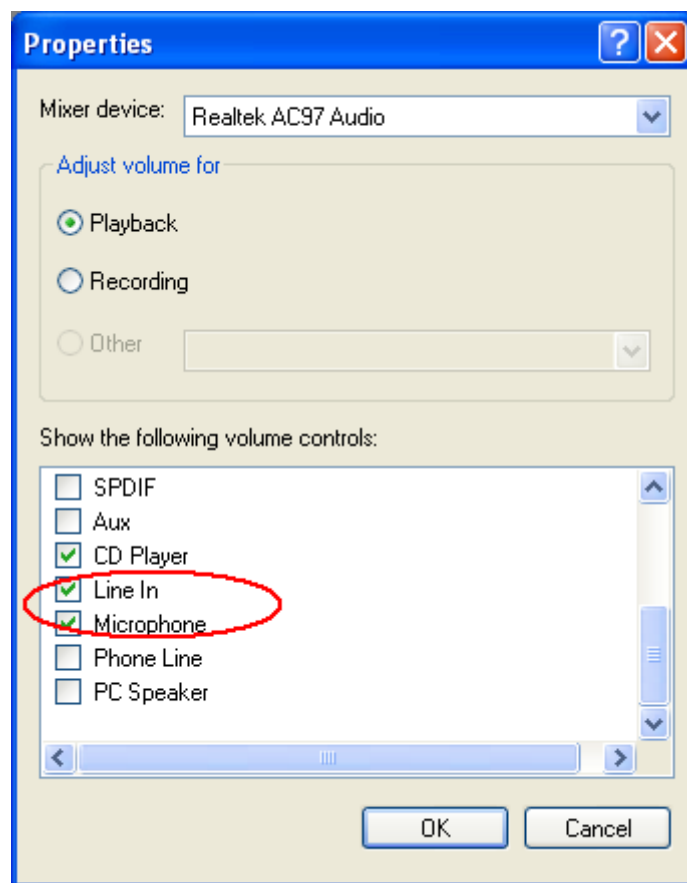

Figure 4-6 Properties
- c) If the line in or/and microphone volume control is/are not shown in the Volume Control menu, click on **Options** > **Properties**, tick **Line In** and **Microphone** as shown in figure 4-6, click on **OK**: